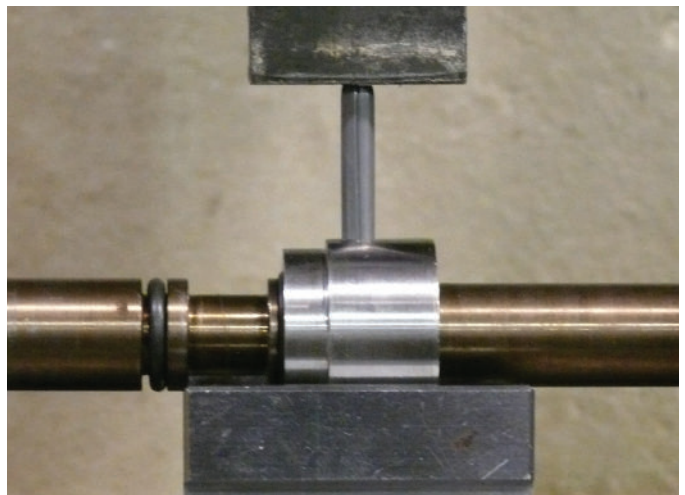

Figure 9-20 Press Spirol Pin
4. Press spirol pin flush with the surface of O-ring sleeve. (Figure 9-20)